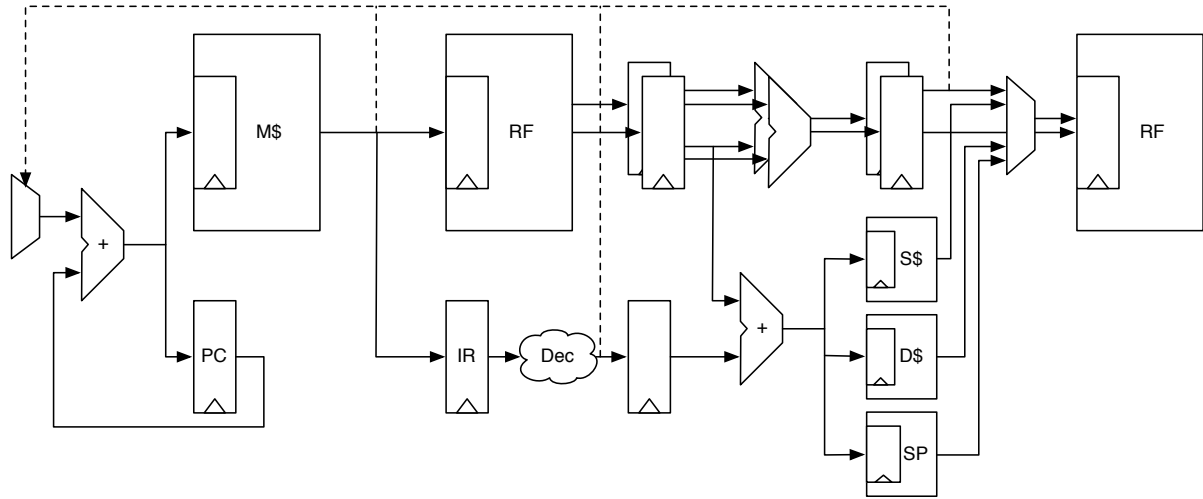

Figure 2.1: Pipeline of Patmos with fetch, decode, execute, memory, and write back stages.
Figure 2.1 shows an overview of Patmos' pipeline. The pipeline consist of 5 stages: (1) instruction fetch (FE), (2) decode and register read (DEC), (3) execute (EX), (4) memory access (MEM), and (5) register write back (WB).
Patmos contains several on-chip memories, as sketched in Figure 2.1. We apply the idea of split caches [10] to simplify and enhance the cache analysis. Instructions are fetched from the instruction cache. Patmos also supports instruction and data scratchpad memories. Stack allocated data is cached in a stack cache and we envision also a normal data cache with LRU replacement. Accesses to data that are hard to analyze can bypass the data cache.